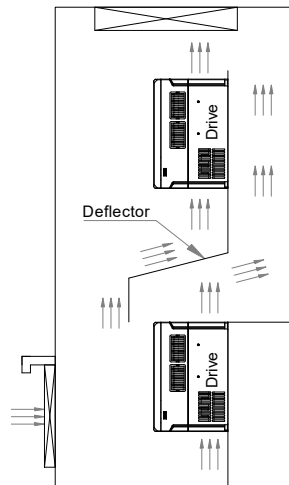

Figure 2-2 Installation Diagram of Multiple Drives
- (3) When multiple drives are installed up and down, the baffle applied in the middle is shown in Figure 2-2.